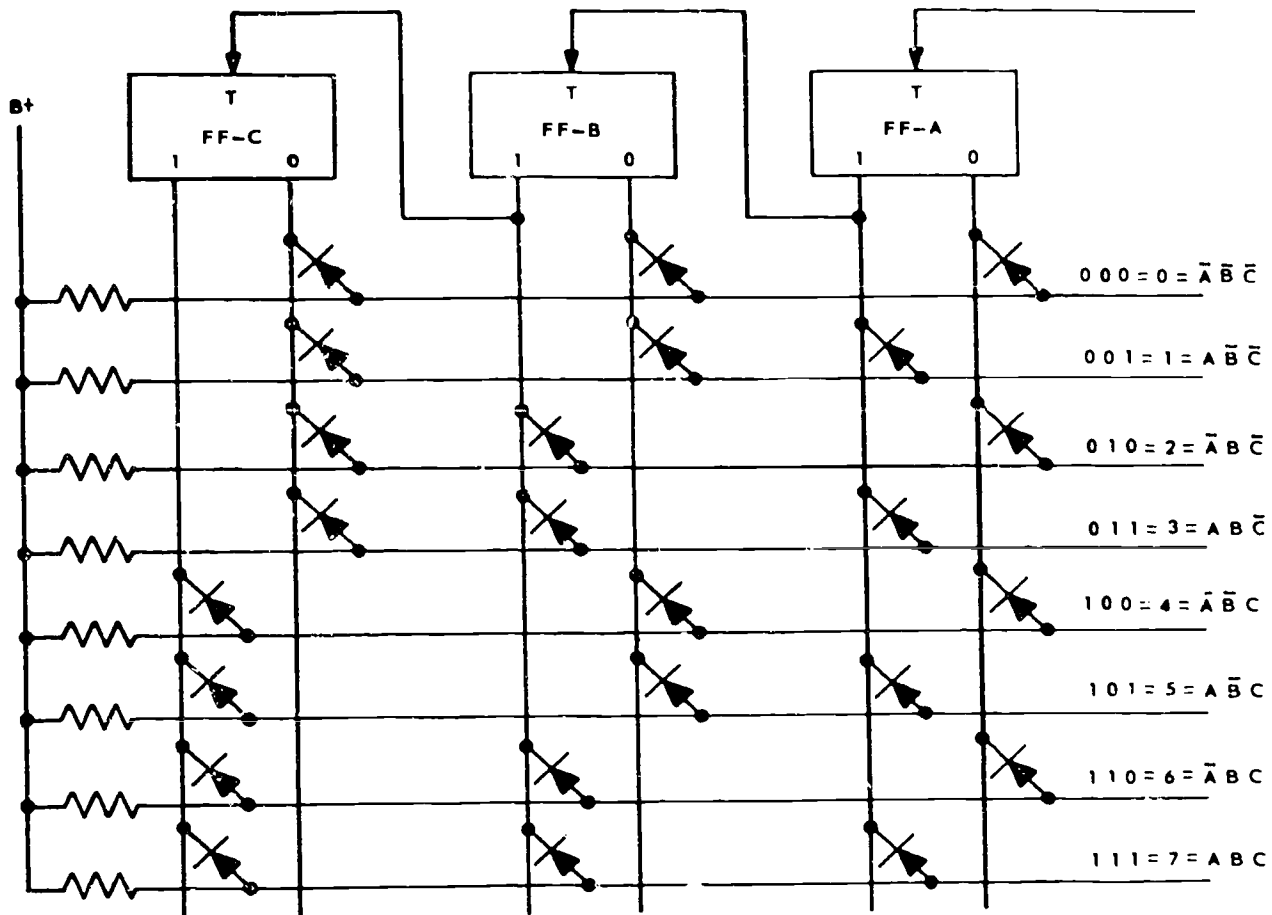

Figure 1-10. Diode matrix decoder.
Diode Matrix Decoders. When a large number of AND- and OR-gates are used to detect a series of counts or a series of binary configurations, common practice is to show them schematically as a rectangular diode matrix. This form of circuit is shown in figure 1-10. A three-stage serial up-counter is shown connected to eight AND-gates. Each AND-gate produces a pulse of one count width when a particular count is present in the counter.
3. How many crystal diodes would be required to represent all possible counts if the counter shown in figure 1-10 were expanded to six stages?